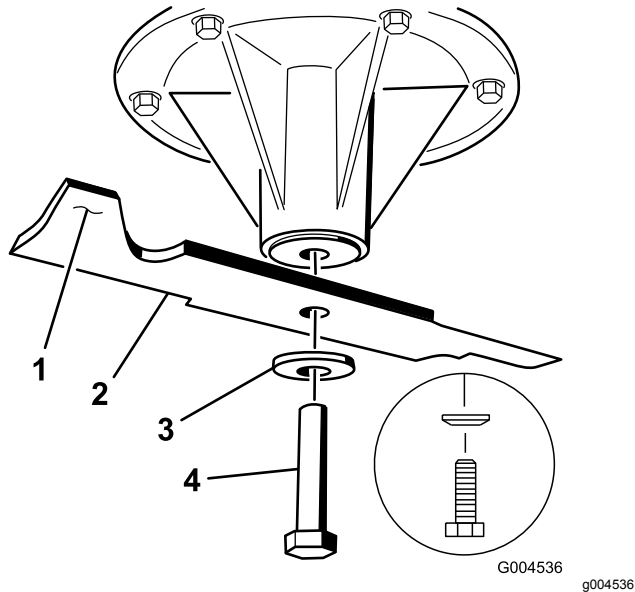

Figure 105
1. Install the blade onto the spindle shaft (Figure 105).
2. Install the spring disk and blade bolt (Figure 105).